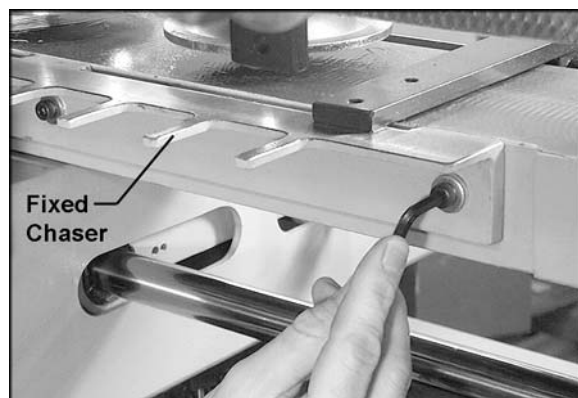

Figure 17
The fixed chaser (Figure 17) provides a support on which the workpieces rest. The spacing between the "fingers" of the fixed chaser allows clearance for the cutter.
1. To replace the fixed chaser, remove the three M6 socket head cap screws and flat washers, using a 5mm hex wrench as shown in Figure 17. Remove the fixed chaser.